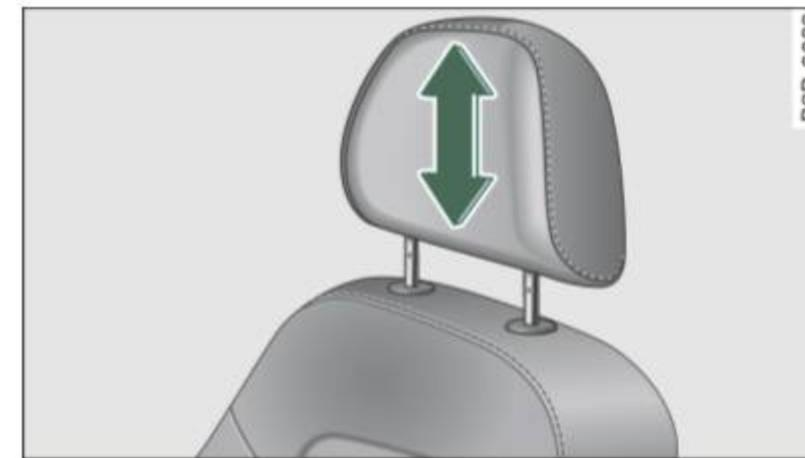

Fig. 74 Front seat: Adjusting the head restraint
- Adjust the head restraints so that the top of the head restraint is *at least* level with your eyes or higher ⇒ *page 75*, fig. 74.